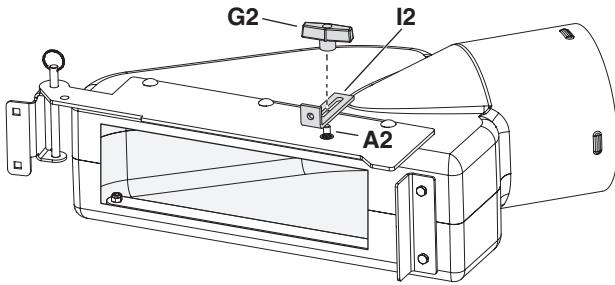

FIGURE 33
- Install the mounting bracket (I2) onto the 5/16" x 3/4" carriage bolt (A2) as shown below. Then install the 5/16" wing knob (G2) but do not fully tighten. See figure 33.